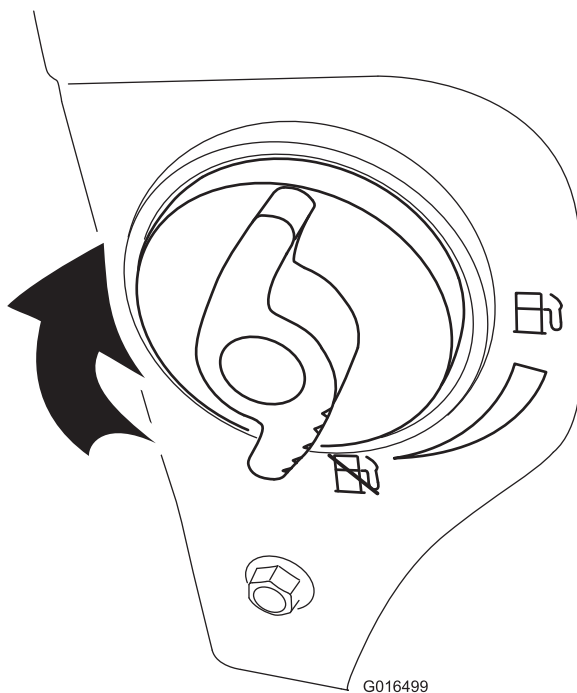

Figure 27
4. Close the fuel-shutoff valve by rotating it clockwise (Figure 27).